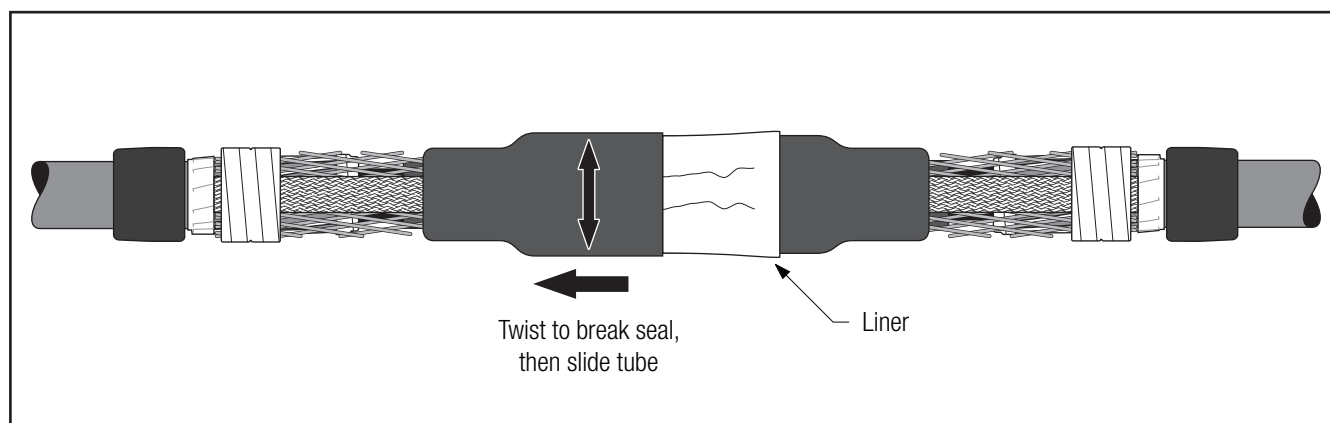

Figure 28
- 7.2 Install the rejacketing tube by twisting the tube (not the liner) from side to side to start the movement. Then slide and unroll the tube over the constant force springs and rubber mastic. (*Figure 28*). Repeat on other side.